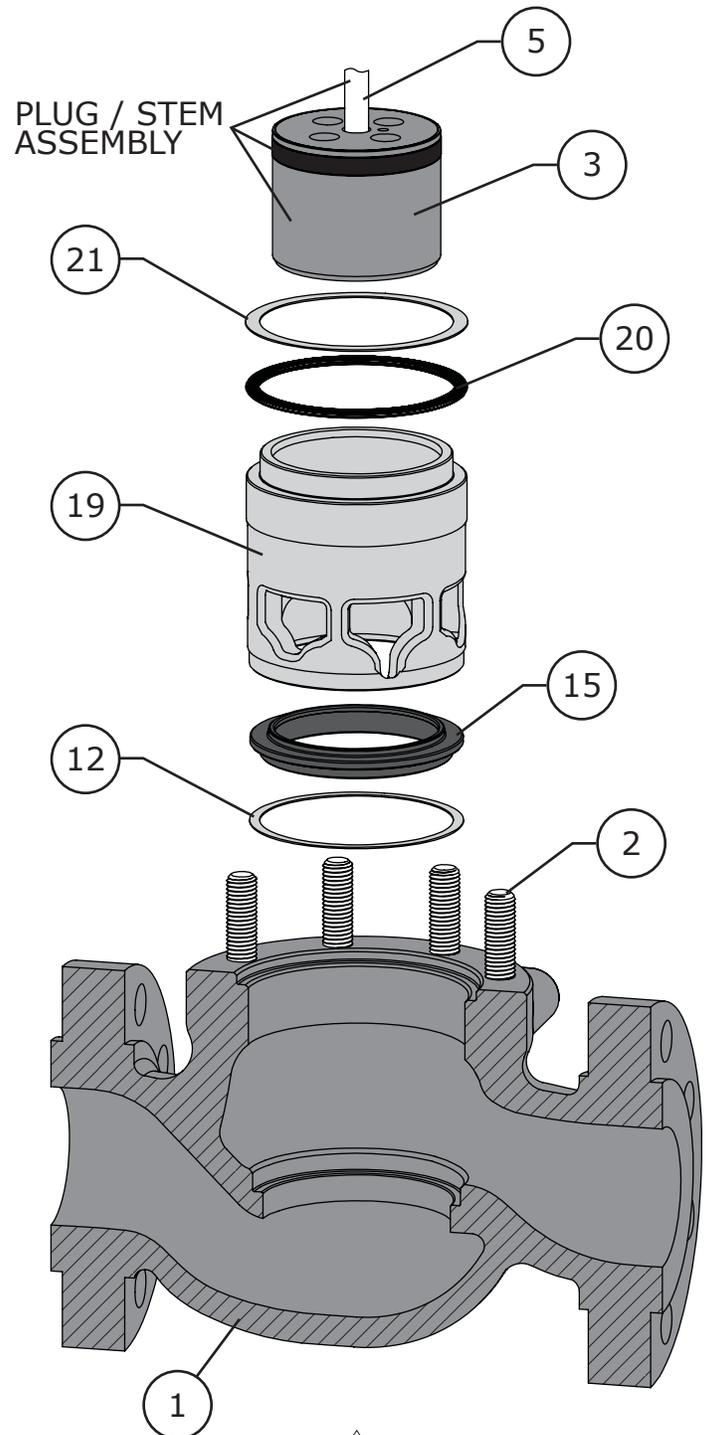

Figure 9 Standard Trim Parts Removal (Steps 1 - 6)
- 1 Remove the metal shim (Key 21) and spiral wound gasket (Key 20) if they haven't already been removed. Refer to Figure 9.
- 2 Remove the valve stem (Key 5) / valve plug (Key 3) assembly from the valve body (Key 1), refer to Figure 9. Refer to Plug Seal Removal section for disassembly instructions.